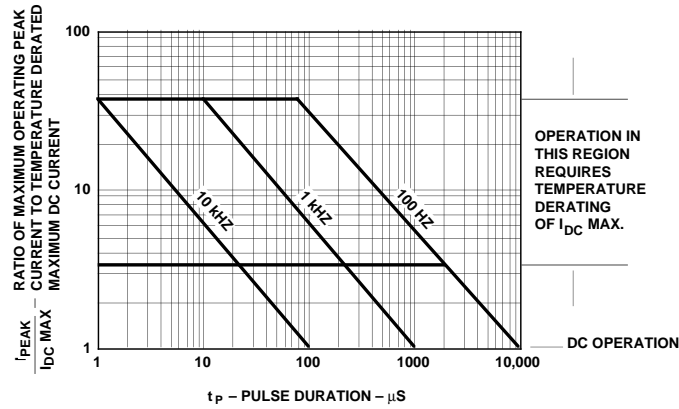

Figure 7. Maximum Allowed Peak Current vs. Pulse Duration – HER, Yellow.
- See Figure 7 to establish pulsed conditions.